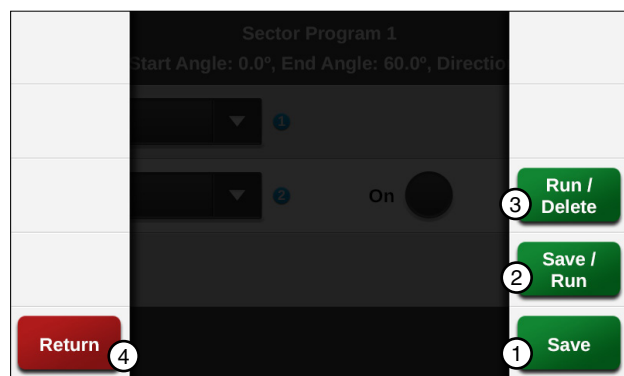

Figure 144-4 1. Save 3. Run/Delete
14. Finish the program by selecting one of the following. Refer to Figure 144-4.